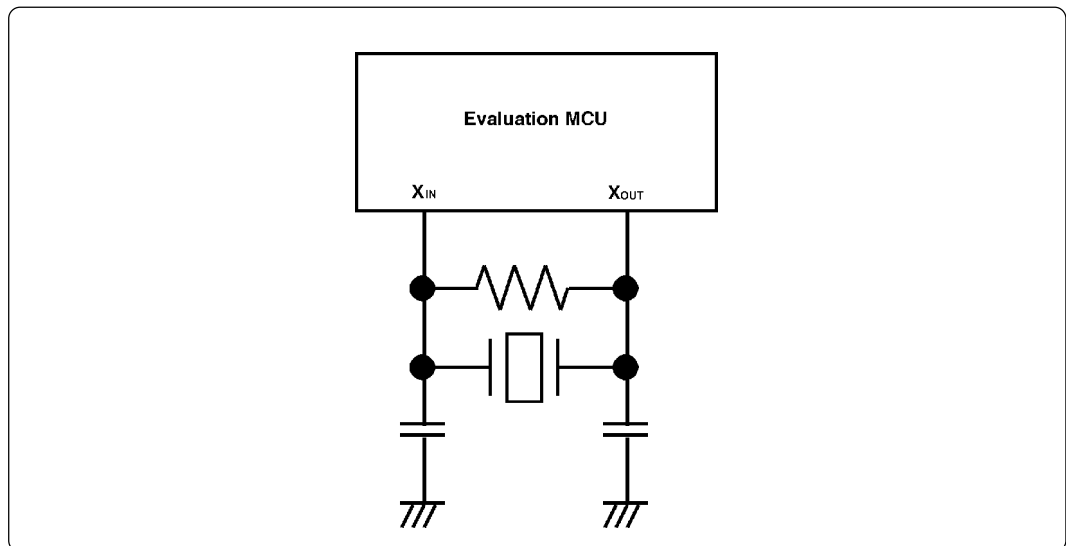

Figure 3.4 Circuit in which oscillation does not occur (same for X_{CIN} - X_{COUT})
- Make note of the fact that in the oscillator circuit shown in Figure 3.4 where a resonator is connected between pins X_{IN} and X_{OUT} , oscillation does not occur because a flexible cable, buffer IC and other devices are used between the evaluation MCU and the target system. It is same for sub-clock oscillator circuits (X_{CIN} and X_{COUT}).
(2) Changing the Internal Oscillator Circuit of the Emulation Pod